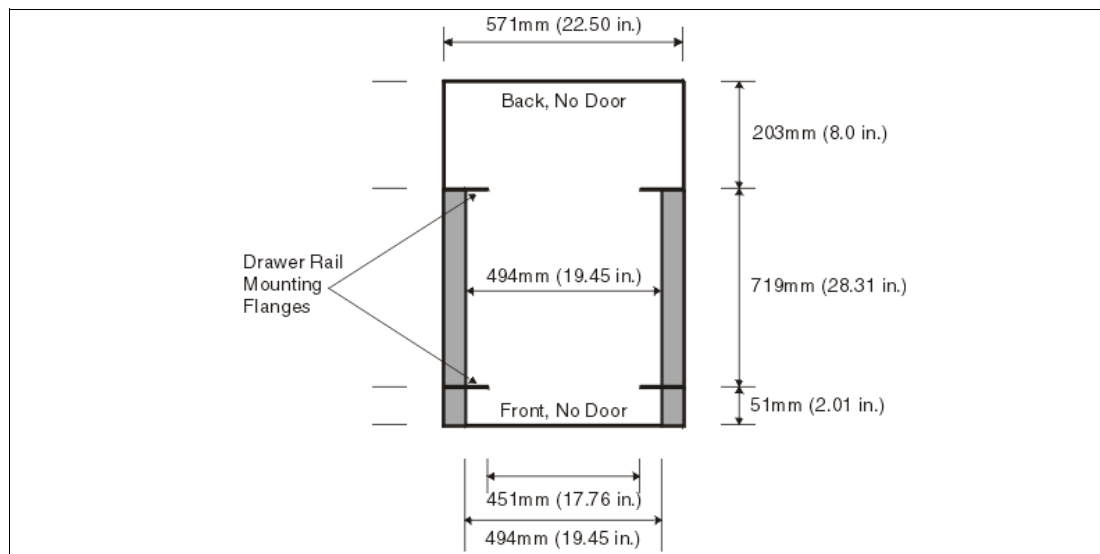

Figure 1-3 Top view of non-IBM rack specification dimensions
- ▶ The front rack opening must be 451 mm wide + 0.75 mm (17.75 inches + 0.03 inches), and the rail-mounting holes must be 465 mm + 0.8 mm (18.3 inches + 0.03 inches) apart in the center (horizontal width between the vertical columns of holes on the two front-mounting flanges and on the two rear-mounting flanges). Figure 1-3 shows a top view with the specification dimensions.